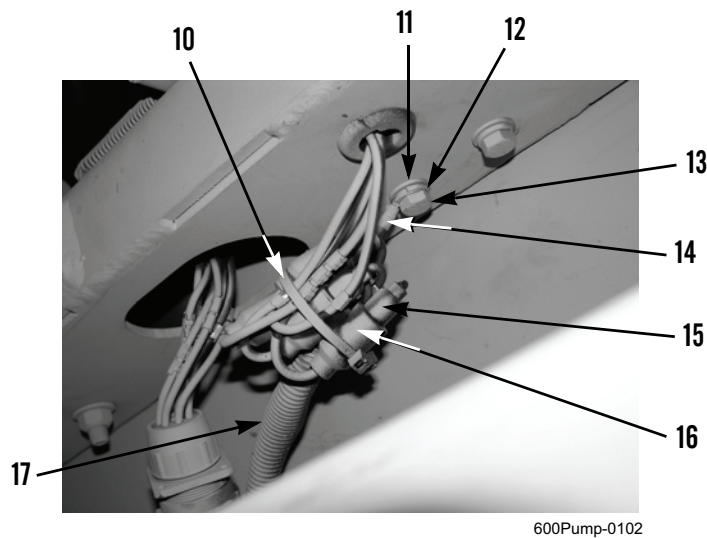

Figure 5. Wiring Harness Connections at Taillight.
1. Position trailer wiring harness (Figure 5, Item 17) between points of connection.
2. At right rear of trailer, secure trailer wiring harness ground wire (Figure 5, Item 14) to rear of trailer with washer (Figure 5, Item 11), new lockwasher (Figure 5, Item 12), and screw (Figure 5, Item 13).
3. Connect four trailer wiring harness connectors (Figure 5, Item 16) to taillight connectors (Figure 5, Item 15).
4. Install new tiedown strap (Figure 5, Item 10) around four taillight connectors (Figure 5, Item 15) and trailer wiring harness connectors (Figure 5, Item 16).